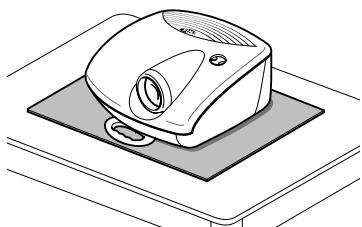

Fig. 12
**i** **Do not switch-on the projector if it is standing on surfaces sensitive to heat, as this may result in damage caused by the hot air outlets underneath. Should this be unavoidable take extra precaution of protecting the surfaces with a layer of heat resistant material (Fig. 12).**